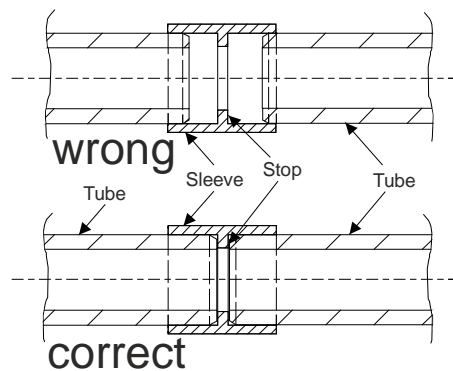

Fig. 23 Joining the tubes
- The individual pipe sections are connected to each other with fittings. Depending on the used tube material, gluing as described in Sec. 5.5.2 and 5.5.3 or pressing as described in Sec. 5.5.4 is used. The tubes are pushed into the fittings to the stop (Fig. 23).